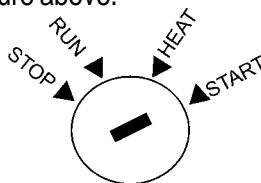

Figure 24. Starter Switch to 'START' position
11. Turn the key to the 'Start' position (Figure 24) to start the engine, then release the key. Check the engine indicators. If the oil pressure is still on, turn off the engine and check the oil. If the engine does not start within 10 seconds after the key is turned to the 'Start' position, release the key, and wait 30 seconds. Repeat procedure above.